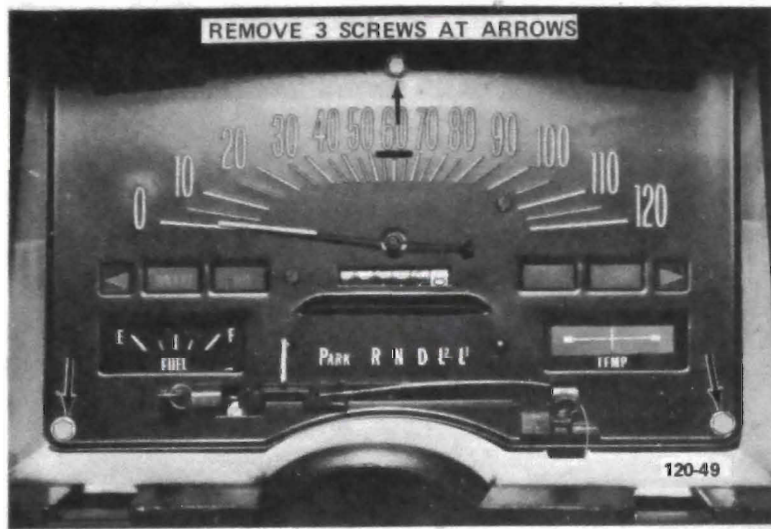

Figure 120-44 Speedometer Retaining Screws
5. Remove speedometer by removing three (3) screws marked by arrows in Figure 120-44.
6. Install by replacing speedometer assembly in cluster and replacing three (3) screws.
4. Remove speedometer by removing three screws, as shown in Figure 120-44.
4. Remove speedometer assembly by removing three (3) screws. See Figure 120-44.
5. Remove fuel gauge by removing two (2) screws, or remove temperature indicator by removing one (1) screw.
6. Remove speedometer from cluster. See Figure 120-44.